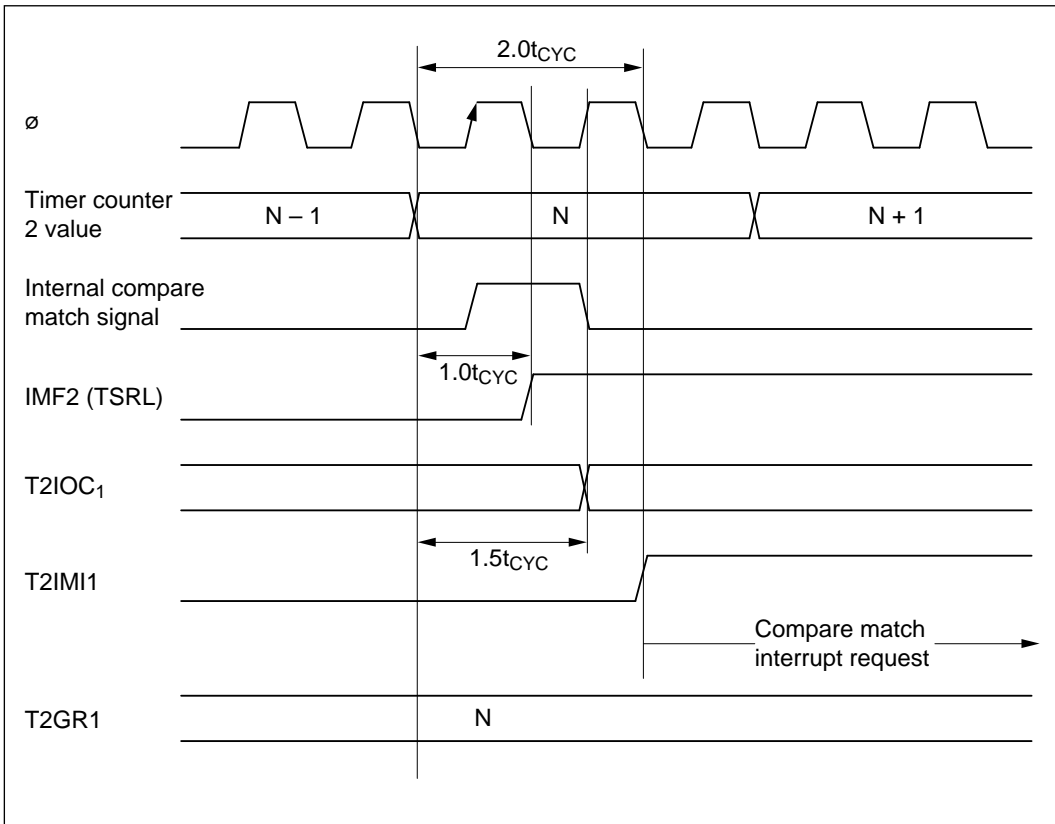

Figure 11-46 Timing from Incrementation to Compare Match Interrupt Request
(1) Output Compare Timing: Figure 11-46 shows the timing from counter increment to generation of a compare match interrupt request. One system clock cycle ($1.0t_{CYC}$) after timer counter 2 matches the T2GR1 value (N), the IPU sets the input capture/compare match flag (IMF). A compare match signal (T2IOC₁) is output $0.5t_{CYC}$ after IMF is set. The interrupt request (T2IMI1) is generated $0.5t_{CYC}$ after the T2IOC₁ output. The T2IMI1 interrupt request therefore comes $2.0t_{CYC}$ after the counter is incremented to N.